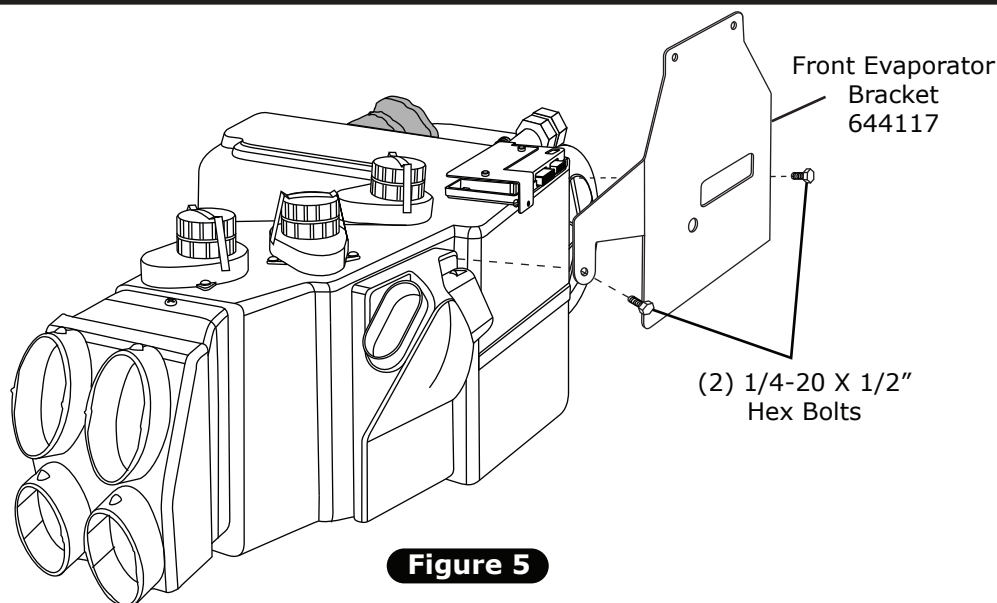

Figure 5
2. Install front mounting bracket onto evaporator using (2) 1/4-20 x 1/2" hex bolts, and tighten (See Figure 5, below).